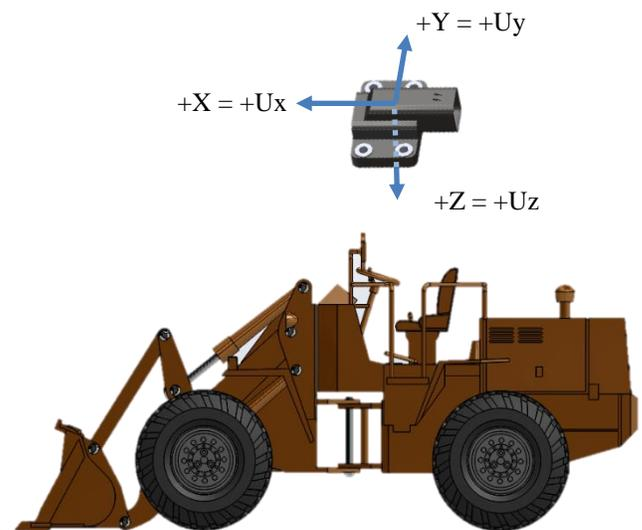

FIGURE 2
**Example 1:** Cab Orientation Monitoring with mounting as depicted in FIGURE 2.